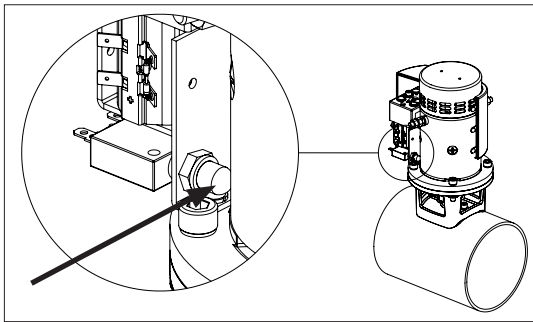

Figure 1
- Is the circuit breaker of the control panel tripped. \* (Figure 1)